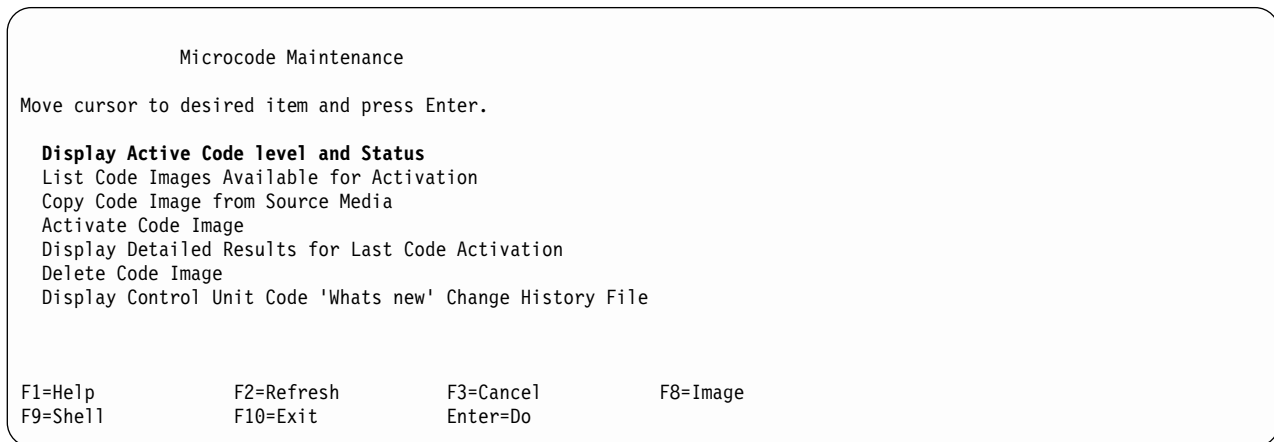

Figure 11-30. Microcode Maintenance
- \_\_\_ Step 2. Select the first option shown on Figure 11-30, **Display Active Code level and Status**